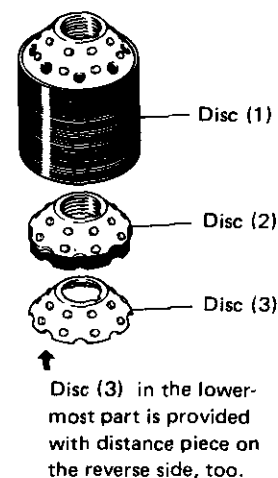

Fig. 6-52
- (1) Each O-ring must be installed with care not to cause it to twist.
- (2) In incorporating main cylinder in bowl body, it is recommended to apply lubricating oil to sliding part of main cylinder.
- (3) Be sure to apply Molykote to each threaded part.
- (4) Knock and key of each part shall be completely put together.
- (5) To assemble discs, place disc (3), provided with a distance piece on inside surface as well as on outside surface, at the lowest position, and assemble discs (2) on disc (3). Assemble all other discs one by one in order of their original assembly as much as possible with care to hold each disc firmly. (Refer to Fig. 6.52)